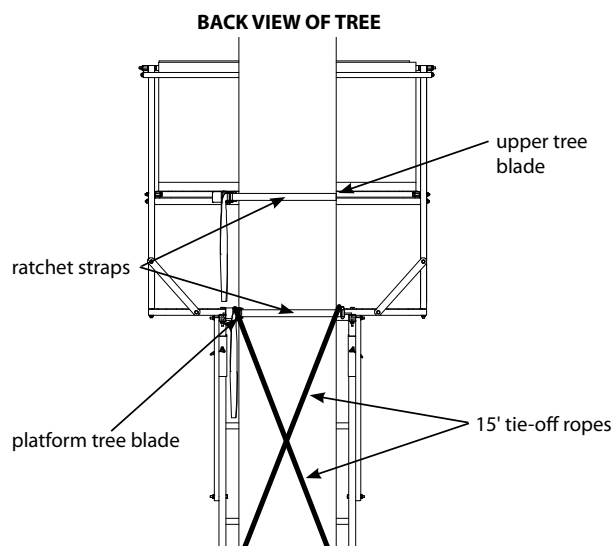

Figure 1a (RE615)
- a. Position (2) people at the platform end of the ladder, lift the platform end and continue uprighting by walking toward bottom end of ladder and moving hands along ladder legs. **Stand ladder up against chosen straight tree on dry, level ground.** Use caution when ladder comes over center against the tree.
- e. Wrap the previously attached 15' tie-off ropes hanging down from platform, around the back side of tree in opposite directions of each other. Pull the ropes snug and tie them to the ladder at the stabilizer bar height location. This ground level ladder-to-tree attachment will prevent the ladder from pulling away from the tree while ascending to top for final ratchet strap attachment. The same holds true when ladder removal is necessary. **SEE FIGURE 1a and 1b**